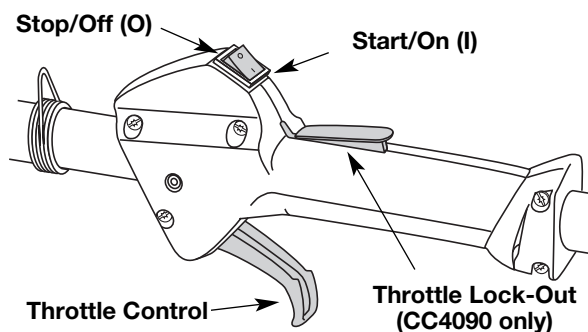

Fig. 20
**NOTE:** There is no need to turn the unit on. The On/Off Stop Control is in the ON (I) position at all times (Fig. 20).